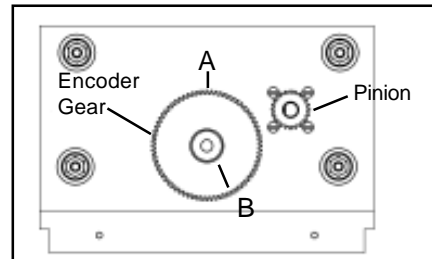

Figure 1: Proper positioning of reference marks A and B before the V-guide is inserted.
5. Looking from the clutch side of the drive unit, locate the reference mark on the mounting plate ("A" in Figure 1) and the reference mark on the face of the brass encoder gear ("B" in Figure 1).
6. As shown in Figure 1, position reference "B" at approximately the 5 o'clock position.